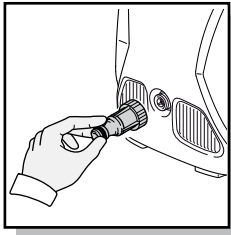
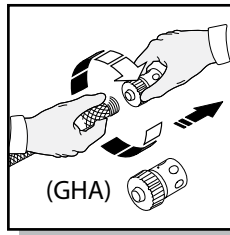
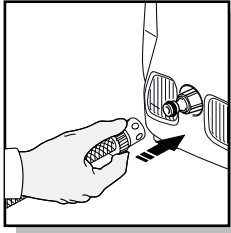

Fig. 12
Fig. 13
Fig. 14
- First, remove the plastic shipping cover on the water inlet on the front of the power washer. Attach the clear plastic adapter by screwing it into the water inlet (Fig.12). Hand tight is fine. Next screw on the blue/black collar attachment to your garden hose (Fig.13). Slide the blue/black collar onto the clear adapter (Fig.14), it will “click” into place. The water is now connected to your power washer.